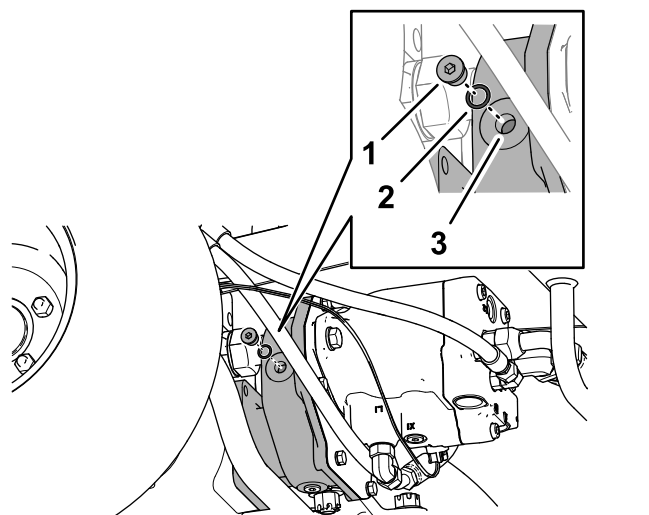

Figure 89
2. Remove the check/fill plug from the left side of the reduction-gear case (Figure 89).